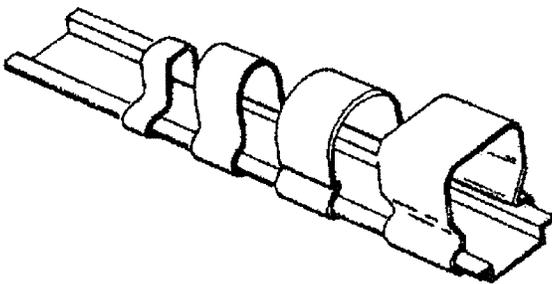

Figure 5-15. Clips, Socket Wrench
- o. Clips, Socket Wrench (Figure 5-15) are stock items and are available in 1/4, 3/8, 1/2 and 3/4 inch size. Their NSN's are listed in Section 3. The rail comes in 16-3/4 inch length and may be cut to desired lengths, drilled and mounted with screws.